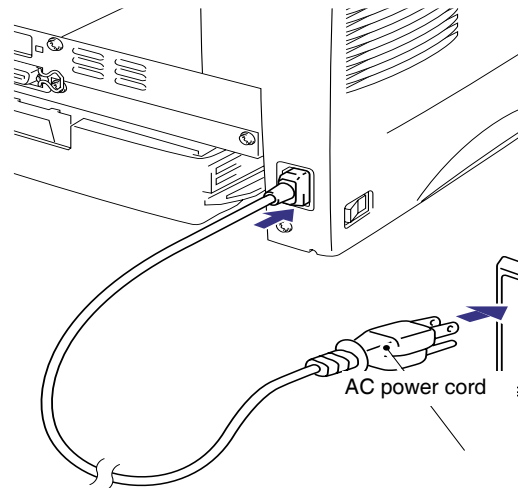

Fig. 2-5
- (1) Make sure the printer power switch is OFF. Connect the AC power cord to the printer. DO NOT connect the interface cable.
- (2) Plug the AC power cord into an AC outlet, and then turn ON the power switch. (Fig. 2-5)
- (3) After the printer has finished warning up, the Green **READY LED will change from Blinking to Lit**. Extend the tray extension flap.
- (4) Press the Control panel button. The printer prints a test page. Check that the test page has printed correctly. (SEE NOTE)